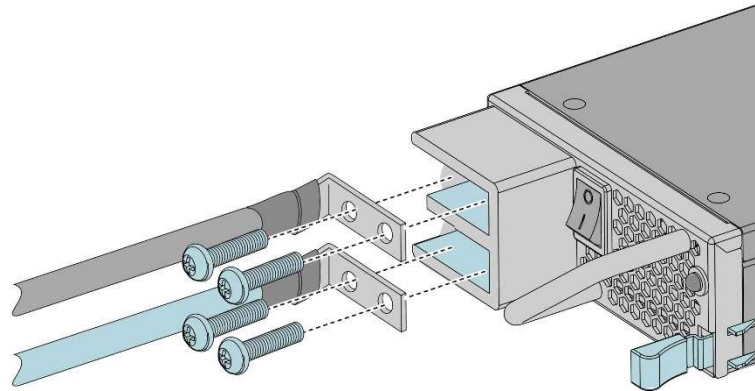

Figure 3-5 Install DC power module power cable
Step 2: Install floating nuts at the marked positions (a floating nut must be installed in each mounting hole on the mounting ear), as shown in Figure 3-5.